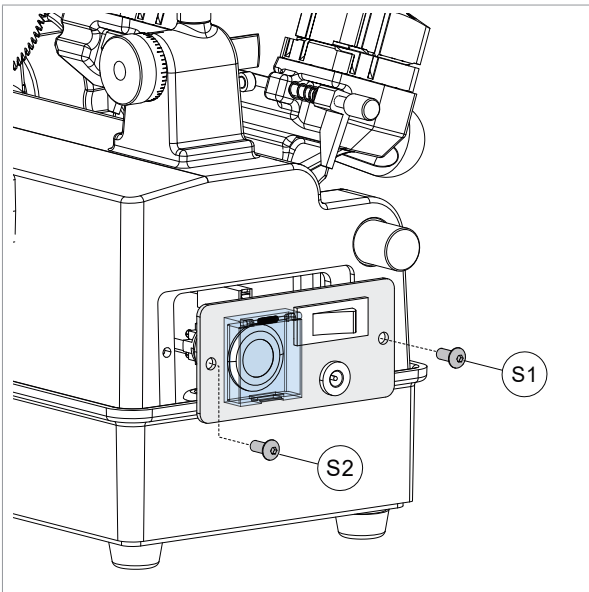

Fig. 45
- 2) Place the machine in upright position and unscrew (S1) and (S2) screws to open the plate, as shown in Fig. 45.